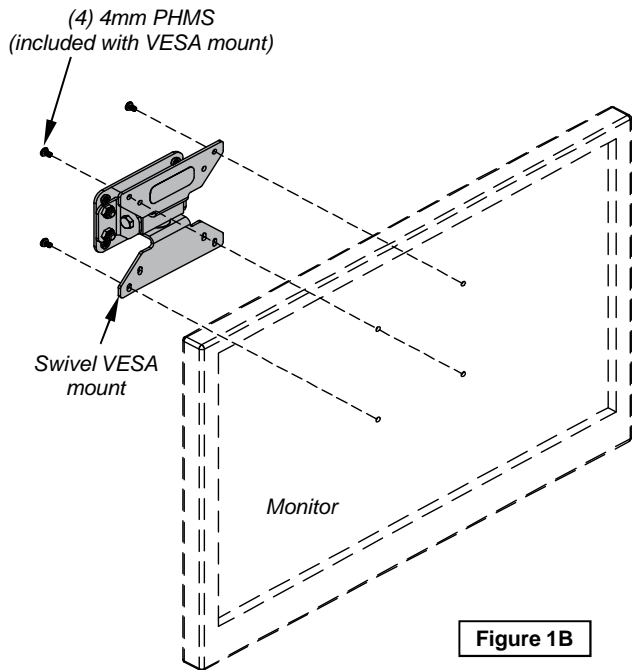

Figure 1B
- D. Attach the swivel VESA mount to the back of your flat panel monitor using the 4mm PHM screws included with the VESA plate. **Figure 1B.**